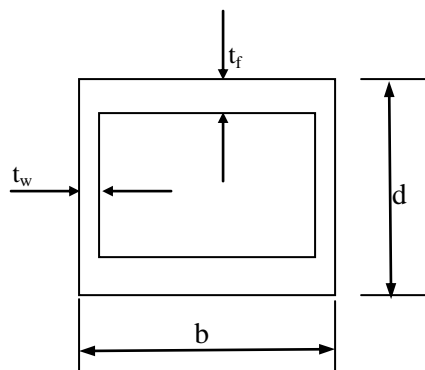

Figure 7
- (c) Figure 7 shows a box section which could be used as a possible choice for forming bridge deck. Derive the expression for the maximum shear stress in the section due to torsional moment T for the case of $t_w = t_f/2$, $b = d/2$ and $t_f = d/20$. Indicate the portion of the box section where maximum shear stress will occur.